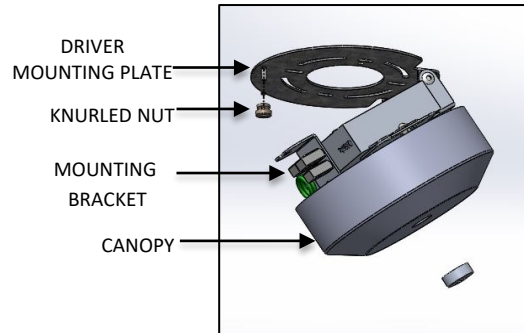

FIG. 6 – MOUNTING PLATE DIS-ASSEMBLY
2. Unscrew the KNURLED NUT securing MOUNTING PLATE to driver MOUNTING BRACKET. Swing driver mounting bracket down and out of the way as shown below in FIG. 6.